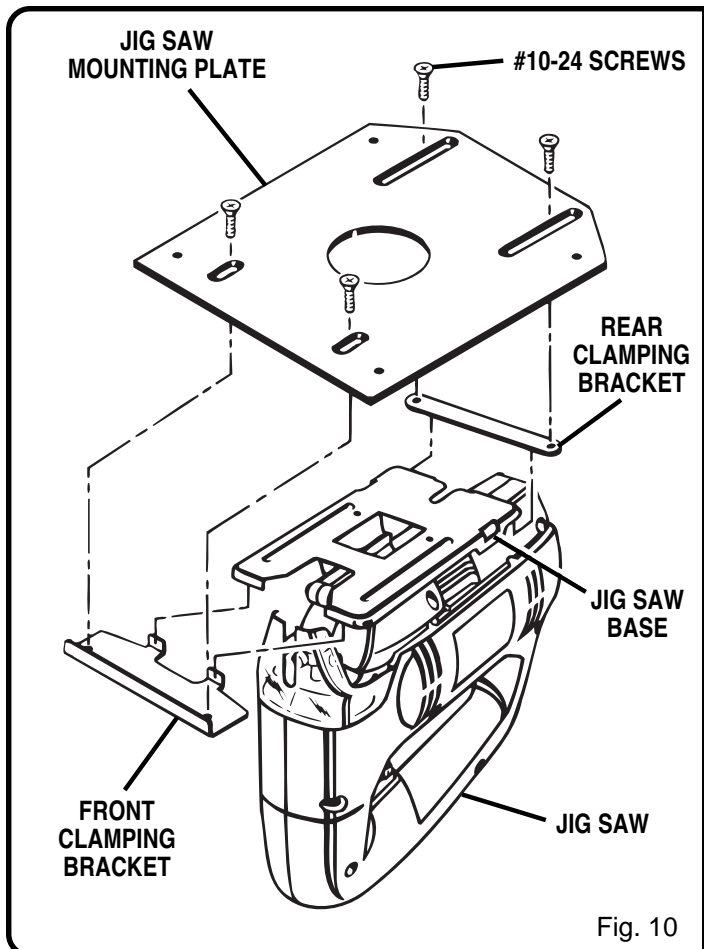

Fig. 10
See Figure 10.
1. Figure 10 illustrates the correct orientation of parts and pieces for mounting your jig saw to its mounting plate.